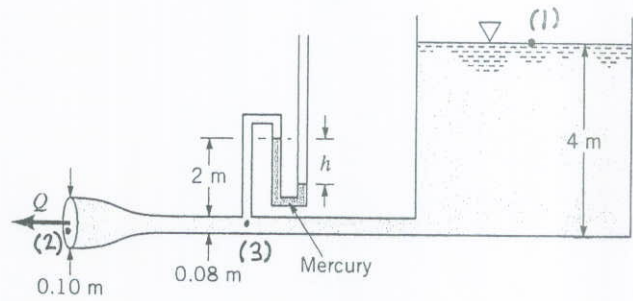

FIGURE P3.68
3.68 Water flows steadily from the large open tank shown in Fig. P3.68. If viscous effects are negligible, determine (a) the flowrate,  $Q$ , and (b) the manometer reading,  $h$ .